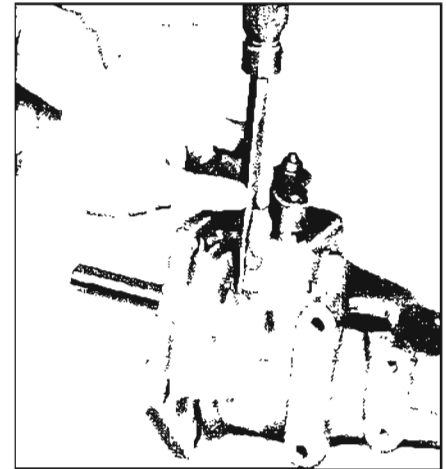

Figure 4-132—Removing Reverse Idler Shaft Lock Pin
1. With case extension removed from the transmission, drive the reverse idler shaft lock pin into the boss until it falls into the clearance hole in the shaft. See Figure 4-132.